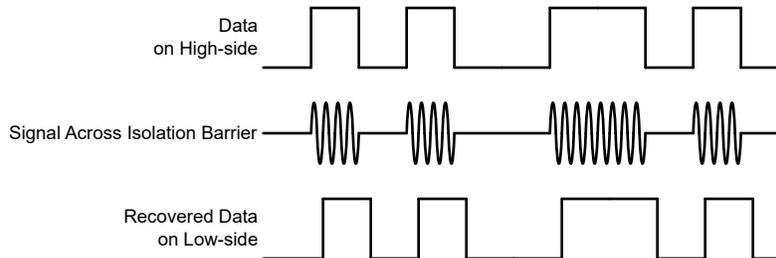

Figure 6-4. OOK-Based Modulation Scheme
The AMC23C15-Q1 uses an on-off keying (OOK) modulation scheme, as shown in Figure 6-4, to transmit the comparator output states across the SiO₂-based isolation barrier. The transmit driver (TX) shown in the Functional Block Diagram transmits an internally-generated, high-frequency carrier across the isolation barrier to represent a digital *one* and does not send a signal to represent a digital *zero*.